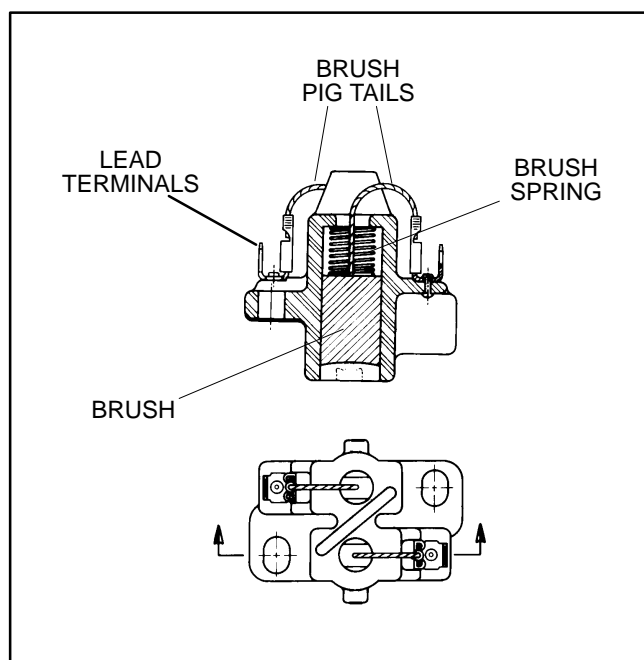

FIGURE 8-3. BRUSH BLOCK ASSEMBLY
4. Replace the brushes and brush springs with new parts. Connect each brush pigtail to the terminal on its side of the insulating divide (Figure 8-3).
5. Disconnect leads F1 and F2 from the brush block terminals (Figure 8-3).
- A. Remove the brush block assembly by disconnecting the leads marked **F1** and **F2** from the brush block terminals (Figure 8-3) and then removing the two mounting screws, **or**